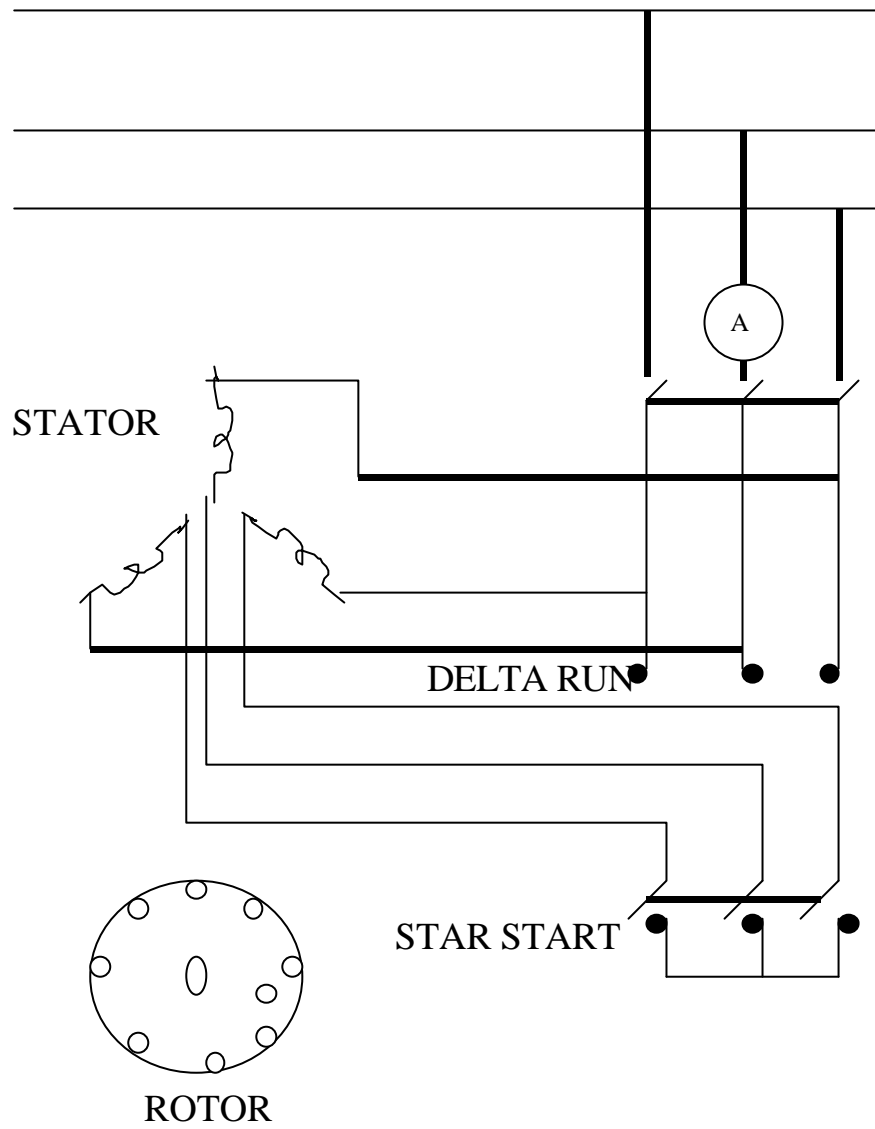

FIG.4
5. For autotransformer starting, connect the cage motor as shown in FIG.4. Take care at starting that the "Run" switch is open and that it is not closed before the "Start" switch is opened.